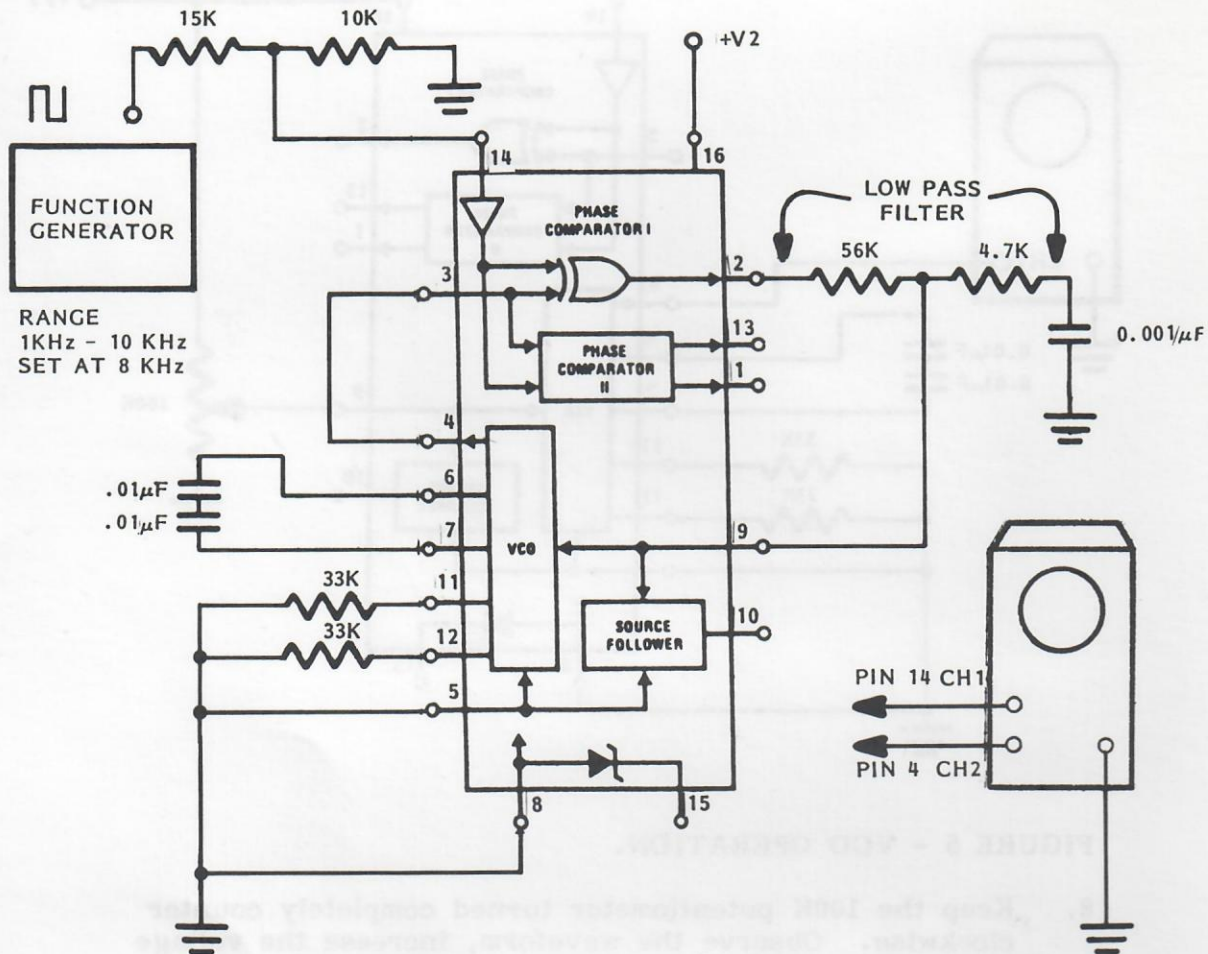

FIGURE 6 - COMPLETE PHASE LOCKED LOOP.
9. Various blocks of the PLL studied earlier will now be interconnected to result in a full working phase locked loop. Remove all previous wiring and wire the circuit of Figure 6.